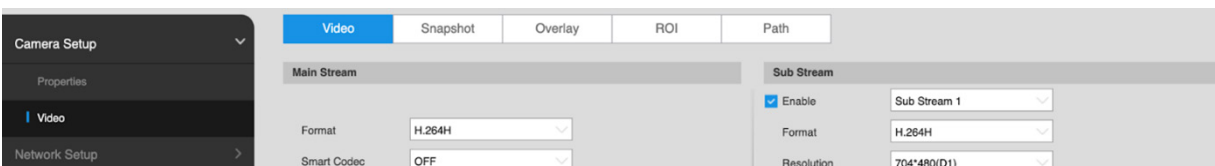

Fig. 4.9
8. Then select “Camera Setup” from the sidebar menu and then “Video.” See Fig. 4.9.